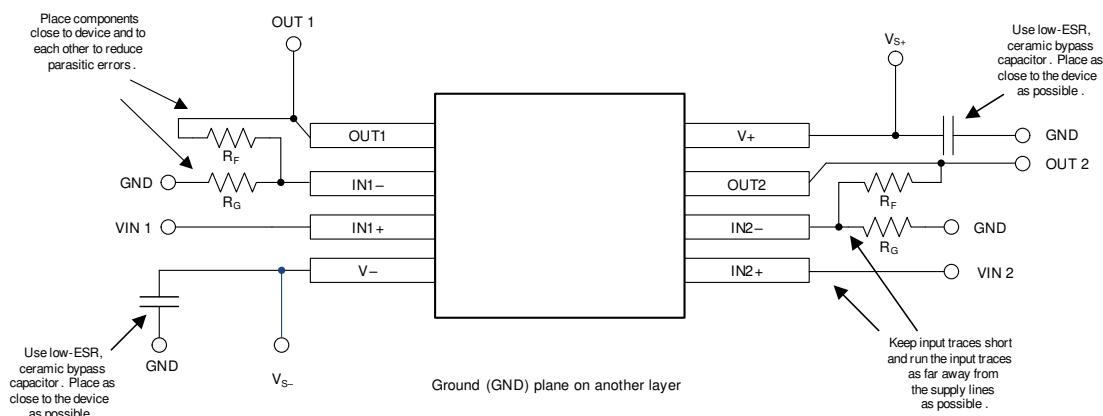

Figure 9-2. Layout Example
- Place the external components as close to the device as possible, as shown in Figure 9-2. Keeping R_F and R_G close to the inverting input minimizes parasitic capacitance.